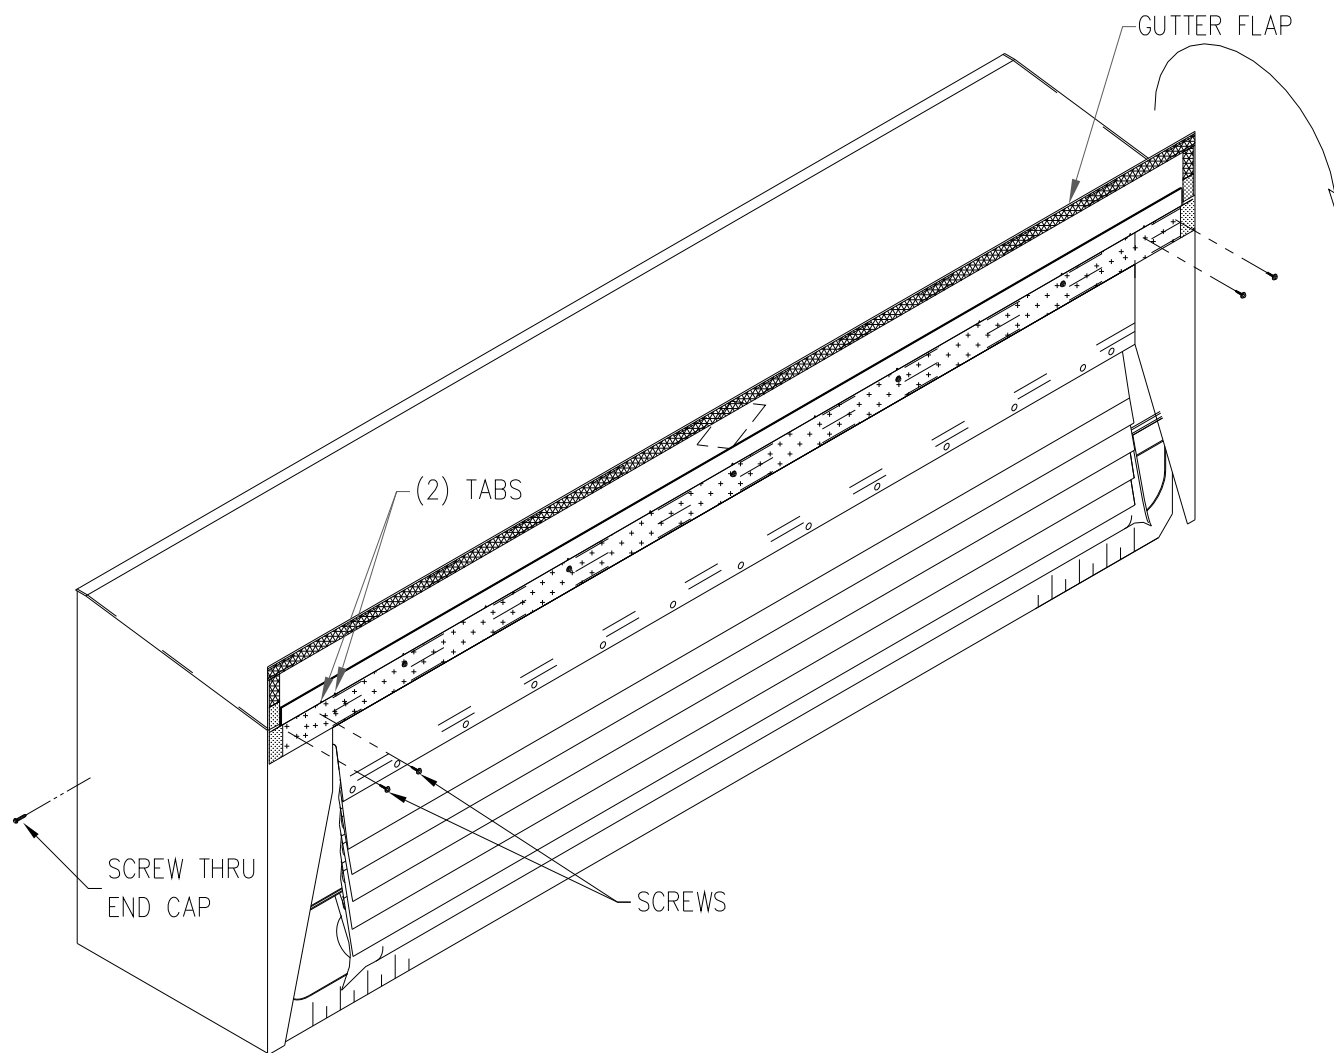

FIGURE 25
9. Attach the front flap ends to the front bar by using the self drill/tapping screws provided going through the face of the impact panel velcro. (See Figure 25) Attach (1) screw in between the two outside fabric tabs and (1) screw approximately 3"-4" off the outside edge. There is a lot of fabric build, so washers cannot be used. Make sure both screws land on the end cap velcro, adjust location if needed.
9. Flip down the gutter flap and attach by matching the velcros. The velcro bottom edge on the gutter flap should align with the bottom velcro edge on the front flap and on the impact plate assembly that runs across the face. Adjust as needed to make sure the flap looks horizontal. Finally, attach the endcaps to the side members. Remove (1) screw from the side member mounting bracket located behind the endcap and re-install it going thru endcap fabric to hold it down. (See Figure 25)